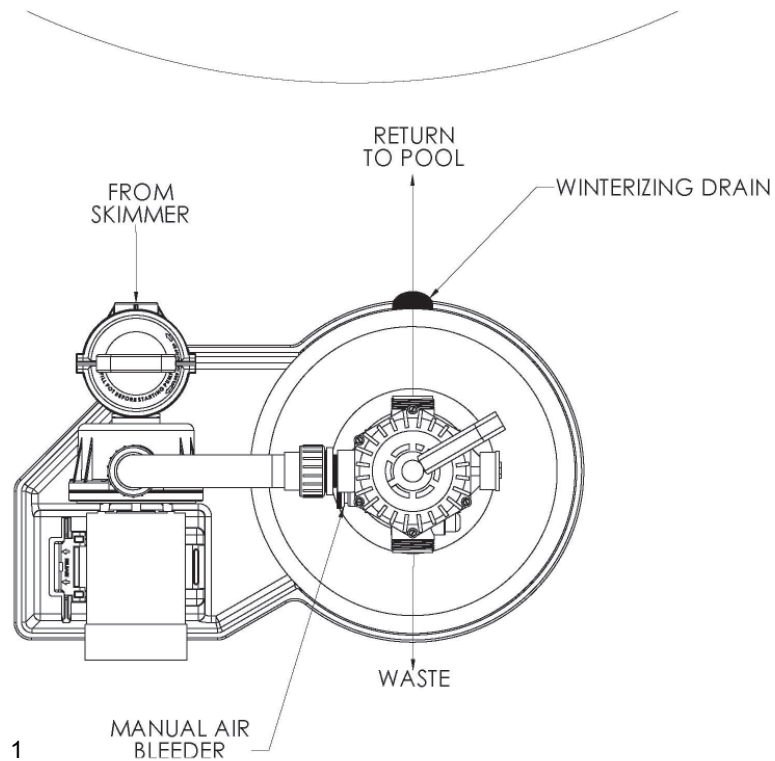

Figure 1
2. Provide space and lighting for routine maintenance access. Locate the system close to the pool. See Figure 1 for typical installation.
- C. Place the system support base on the ground close to the final location of the unit. See Figure 1 on the next page.
6. Be sure top of filter is free of any sand or debris and valve o-ring is in place on valve body. Install valve so that the port locations are in the desired final position. See Figure 1 (see page 4).